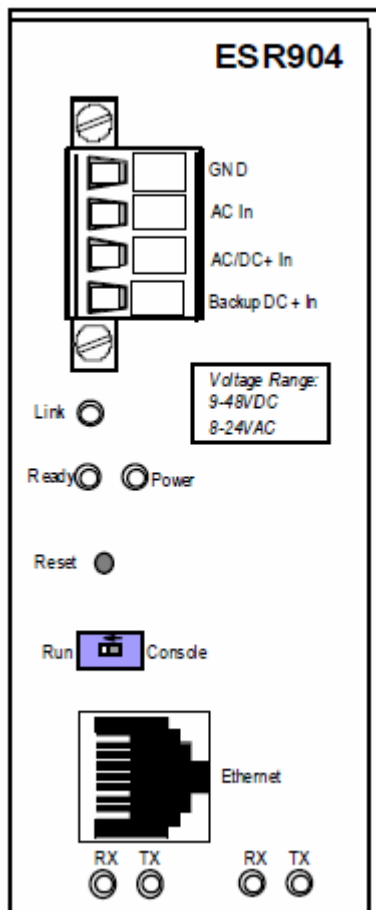

Figure 1-2: Indicators
- “Link” LED (bicolor) - (see Figure 1-2)